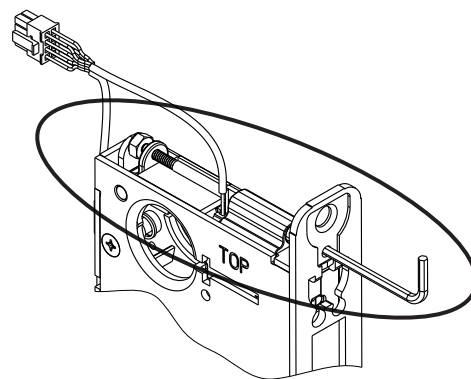

**Fig. 6a**
- a. Thread cylinder into lock body (Fig. 6a).